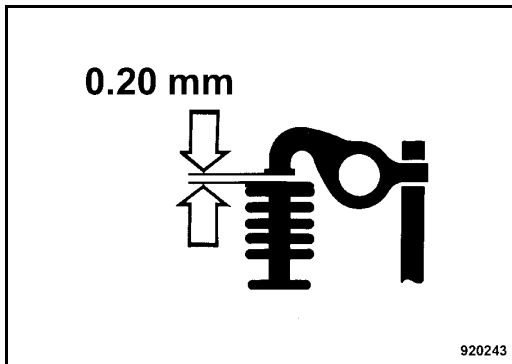

Fig. 164
- Check the gap between rocker arm and valve with a feeler gauge (Fig. 164).